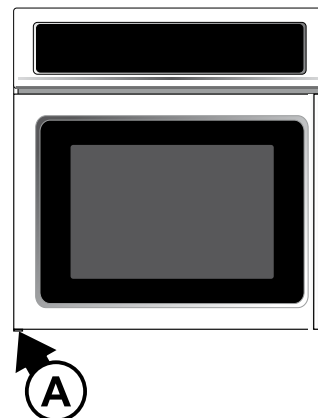

Figure 5
- 6.1.1. Unscrew and remove the threaded pin from the lower hinge (See A, Figure 5).